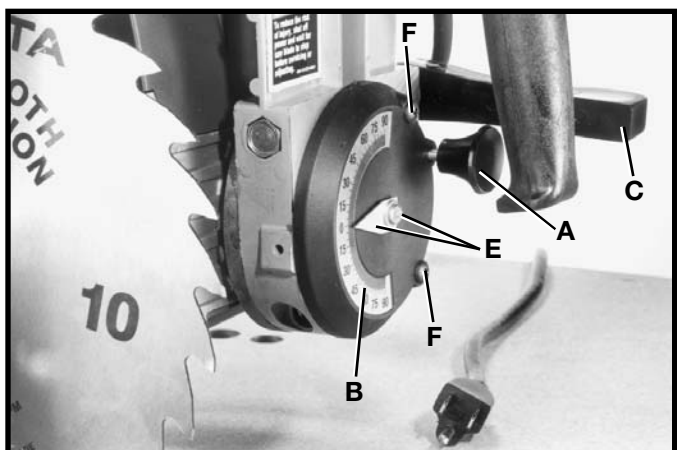

Fig. 40
4. Make certain the bevel index knob (A) Fig. 40, is engaged and the motor is in a horizontal position. Tighten bevel clamp handle (C).
6. If an adjustment is necessary, make certain bevel clamp lever (C) Fig. 40, is tight. Remove screw, flat washer, and pointer (E) Fig. 40. Remove two screws (F) Fig. 40, and bevel scale plate (H) Fig. 42, with index knob (A).